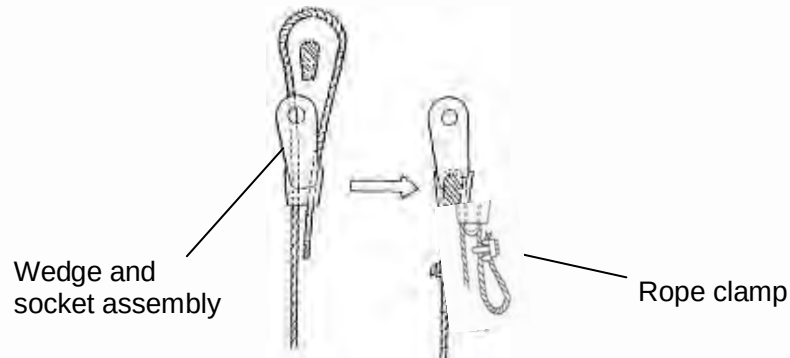

Figure 07 – 17 Rope Clamp
- A. The boom has four parts to it: a basic boom and three telescopic sections. The basic boom section attaches to the superstructure with a pivot connection. The three telescopic sections move together to increase the length / range of the boom. Refer to Figure 07 – 18.